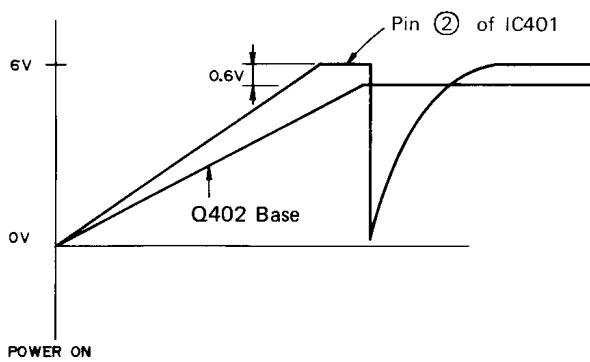
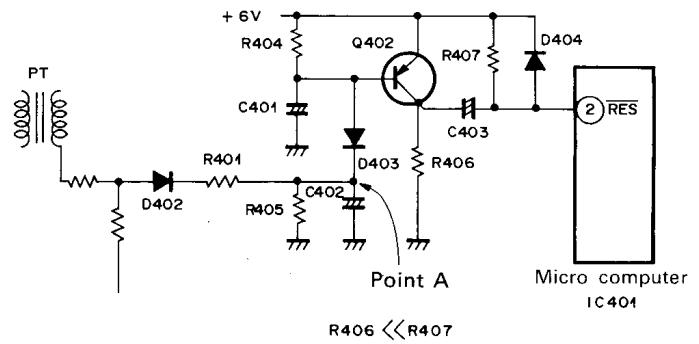

Fig. 12-3-1 Voltage is raised when power supply is ON
Fig. 12-3-2 Reset circuit
- When power supply is ON (See Fig. 12-3-1 and Fig. 12-3-2):